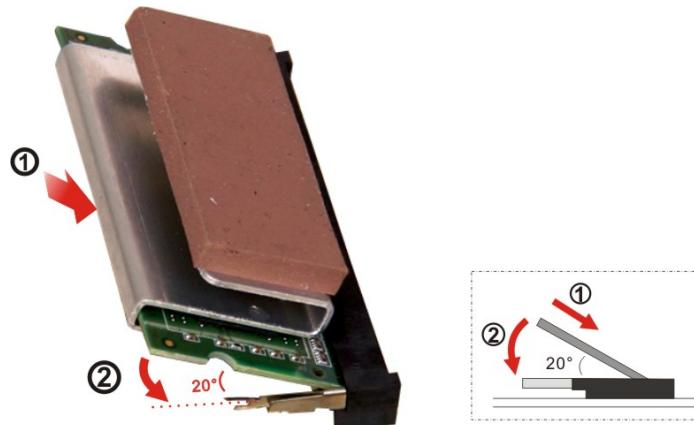

Figure 3-4: SO-DIMM Installation
Step 5: Insert the SO-DIMM. Push the memory in at a 20° angle (**Figure 3-4**)
Step 6: Seat the SO-DIMM. Gently push downwards and the arms clip into place. See **Figure 3-4.**